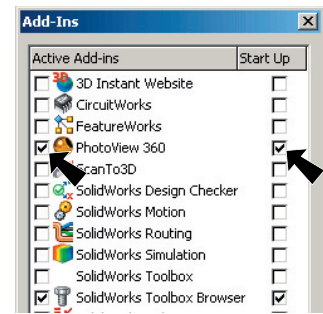

Fig. 29
Step 2. In the dialog box scroll down to **PhotoView 360** and place a check in the check box under **Active Add-Ins** and **Start-Up**, **Fig. 29**. Click OK.